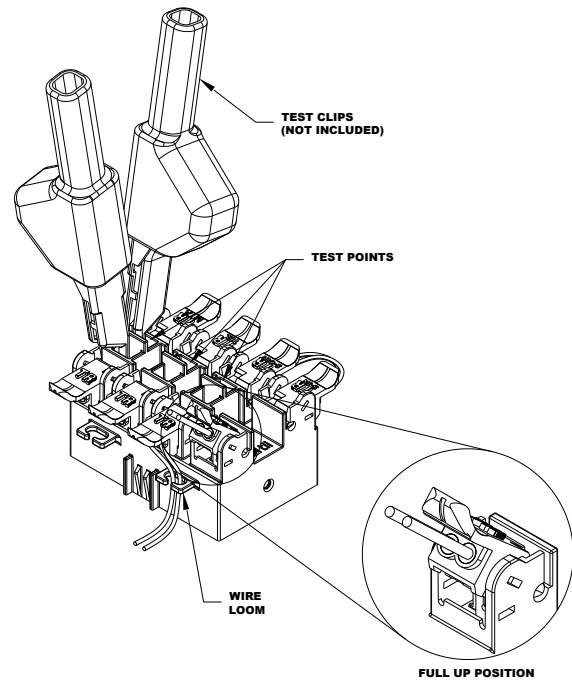

Figure 2
3. Lift the blue rocker for the digital voice service wires (MTA) to the full up position. (See Fig. 2)
4. Insert the Digital Voice Service wires from ATA / EMTA into wire guides simultaneously until they bottom-out. While holding the wires in position, terminate them into the MTA (Blue) rocker by lowering it to the full DOWN position. (See Fig. 2) If the ATA / EMTA is supplying power to the SVM, the green MTA power LED provided on the line will start to blink.
9. To keep wire pairs organized, route them through the molded wire looms. (See Fig. 2)